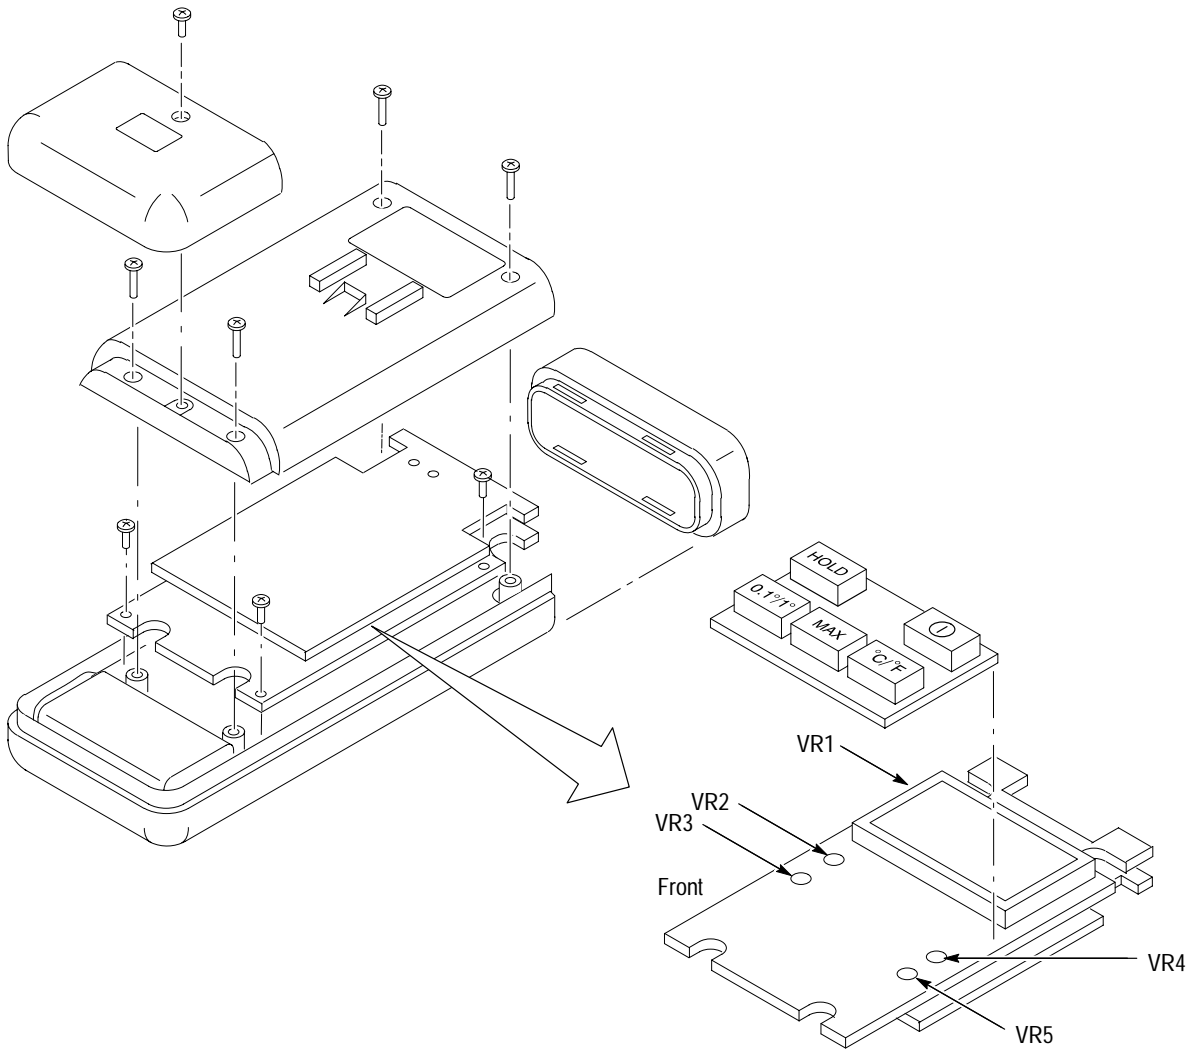
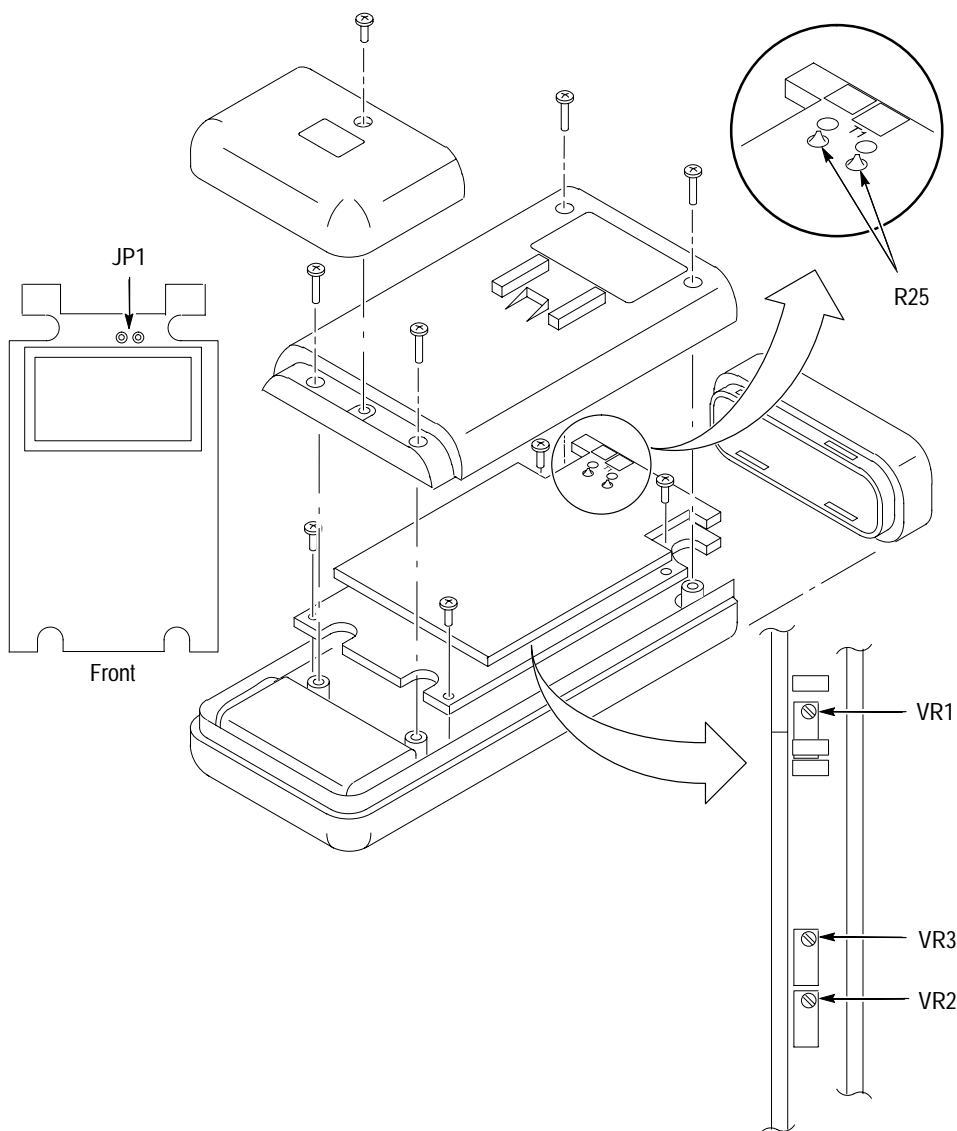

Figure 2: DTM900 Thermometer disassembly and adjustment locations
Figure 3: DTM920 Thermometer disassembly, test points, and adjustment locations
To make internal adjustments, you must open the thermometer case and remove the circuit board (see Figure 2 or Figure 3).
5. For each row in Table 7, set the thermometer and simulator as shown; then adjust the specified test point until the displayed temperature is within the proper limits. Figure 2 shows the location of the adjustment points.
This section describes how to adjust the DTM920 thermometer. To properly adjust the thermometer, perform the following steps in sequential order. Figure 3 shows the location of the test and adjustment points.